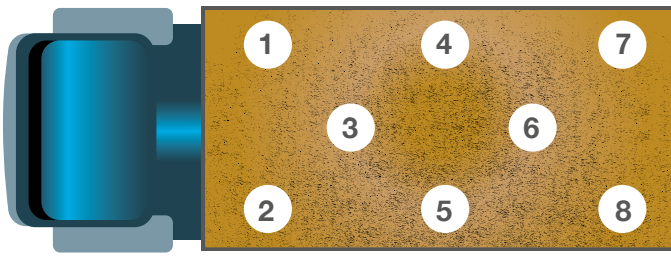

Figure 7. A 30-tonne grain lorry should have 8 evenly spaced samples taken
- Ideally*, taking eight samples (Figure 7), each weighing at least 400 g